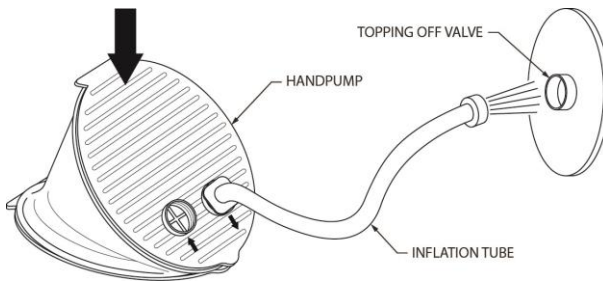

FIGURE 8
1. Screw quick-release pump adapter to the handpump. Tighten hand tight. Refer to Figure 8.